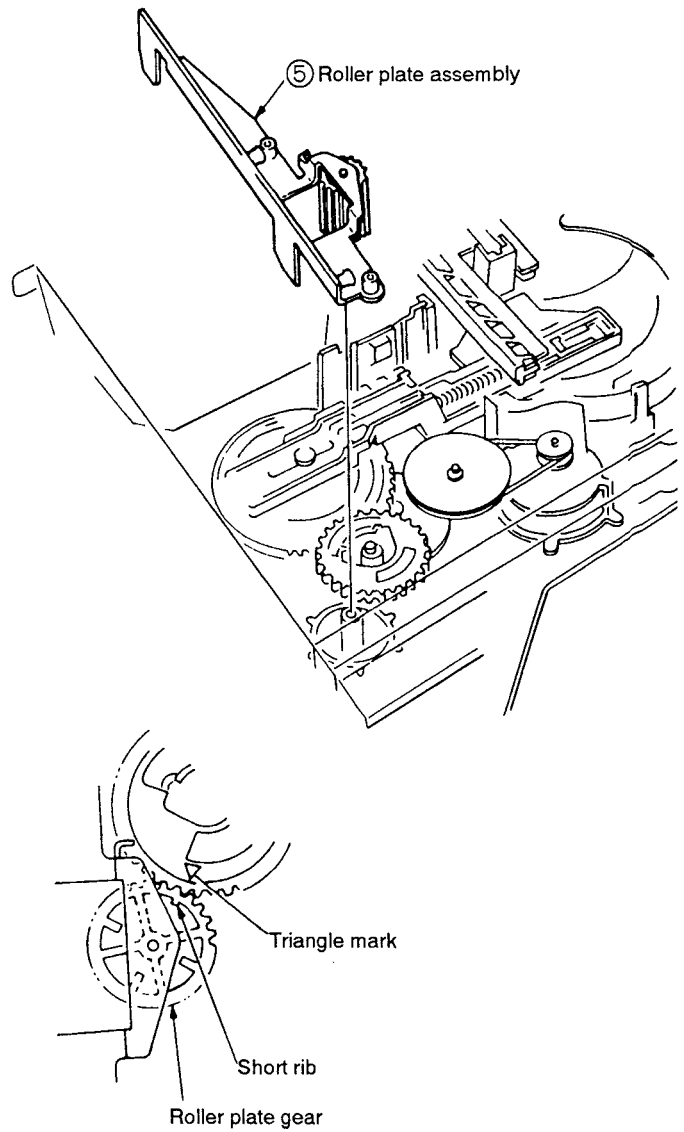

Fig. 7-14
- ⑤ Mount the roller plate assembly in the position where the tooth with the triangle mark (▼) of the follow gear is engaged with the dip of the gear with the short rib on the roller plate gear, as shown in Fig. 7-14.